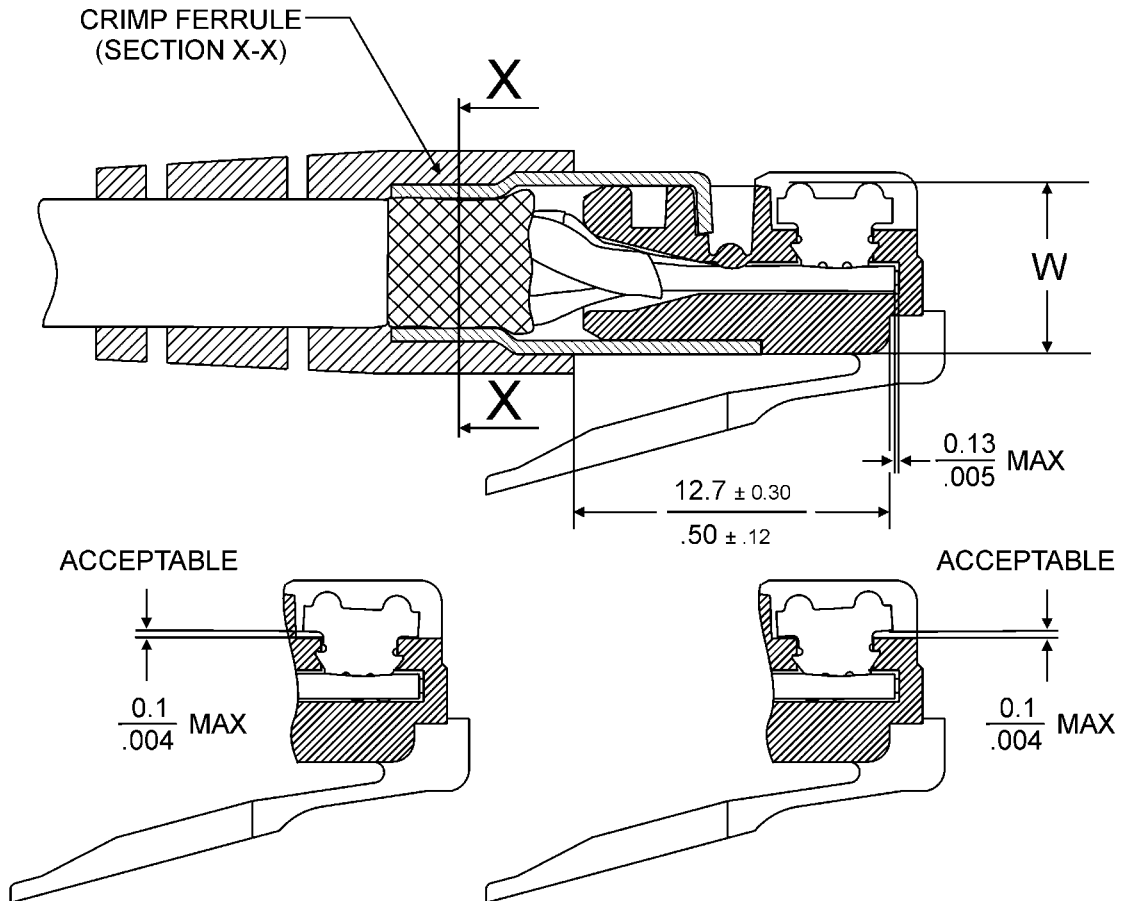

FIGURE 14
CRIMP HEIGHT (SEE FIGURE 14)	DIM 'W'
K. Slide the boot onto the cable up to the dimension shown on figure 14.